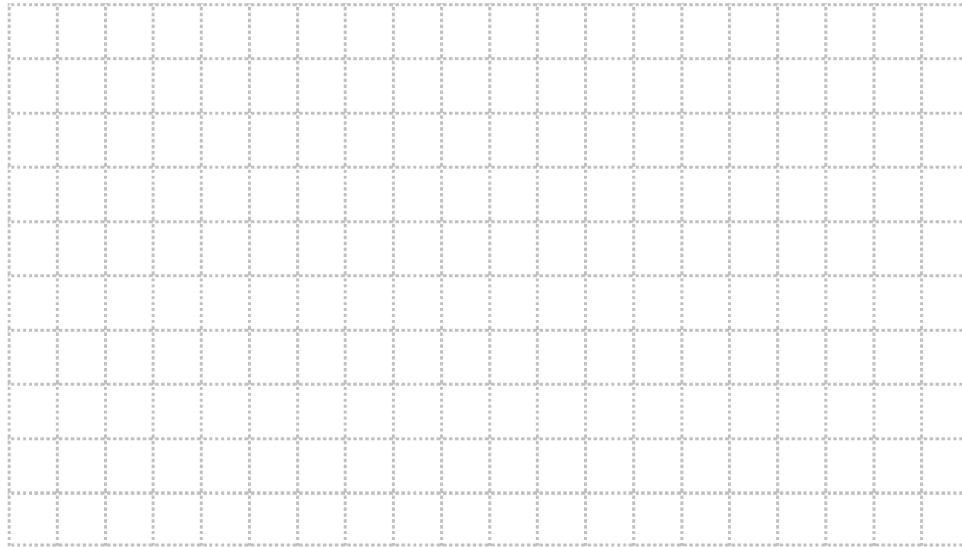

Figure 1-6. Flow rate versus speed curve.
15. Plot the flow rate versus speed (60 Hz \approx 3450 r/min) curve in Figure 1-6.